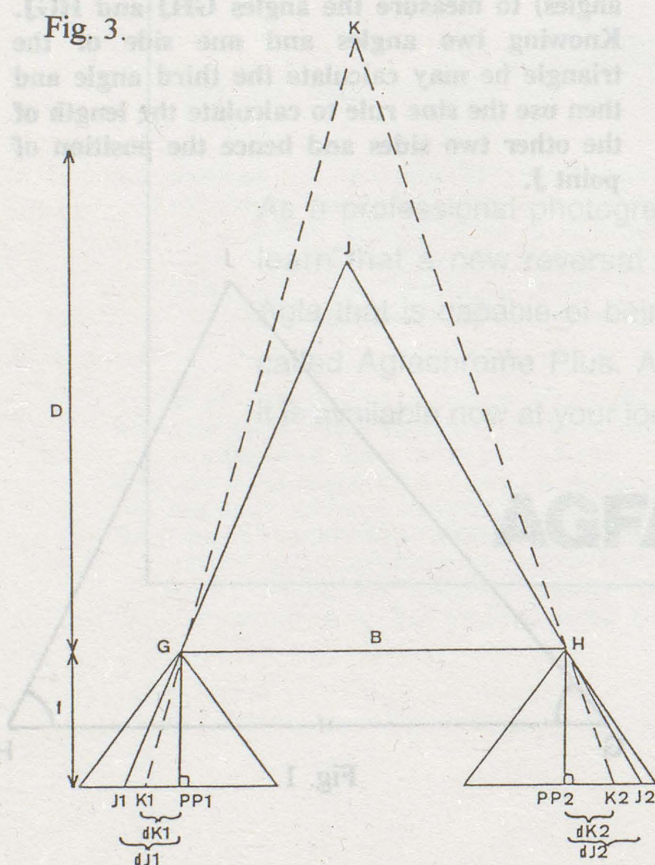
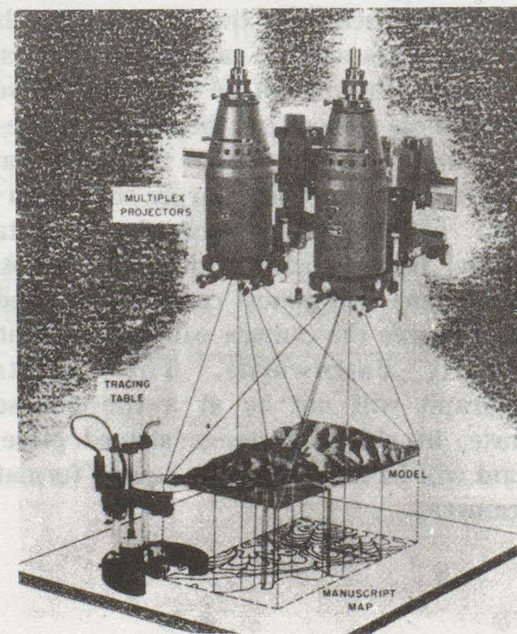
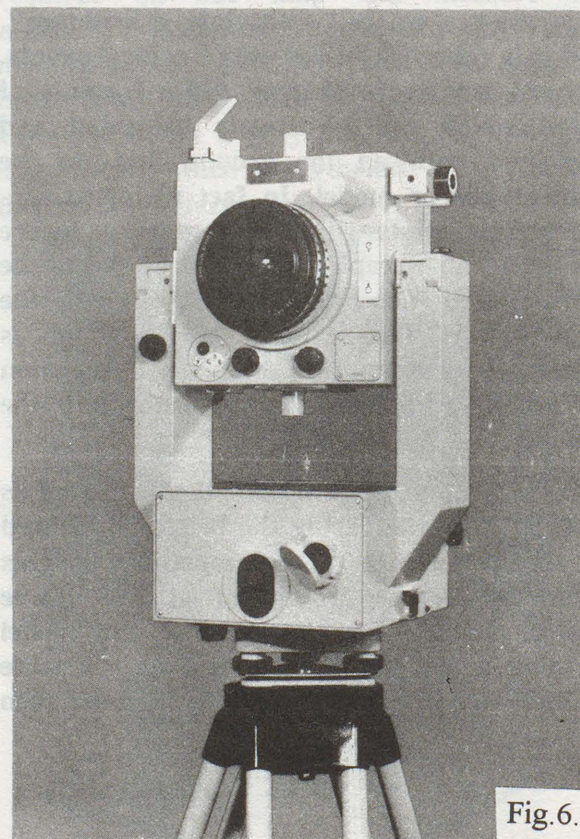

Fig. 3.
Fig.4.
Fig. 6.
In figure 3 we see that we can obtain the same information by replacing the two theodolites by two cameras. Clearly we can not measure angles with the cameras but we can obtain the direction of the rays GJ, HJ, GK and HK in the following way.
In a photogrammetric camera we know the Principal Distance (approximates to the focal length) f very accurately from a factory calibration. We also know from calibration the position of the principle point (PP) which is the point on the format at which the principal ray intersects the focal plane at right angles. Using a precise measuring instrument, which will be described later, we may measure (Fig 3) the distance on each of the two photographs between the PP and the image of the point in question. ie $dK1$, $dK2$, $dJ1$ and $dJ2$. If we look on the left camera at the right angle triangle G, PP1, J1, we know the distance PP1 to J1 ($dJ1$ measured). We may then calculate the angles of the triangle and hence the direction of the ray GJ. Using a similar calculation for K1 on the left camera and J2 and K2 on the right camera we may calculate the direction of the other rays and hence the position of points J and K. In order to obtain the difference of height of points J and K, similar measurements must be made to obtain the distance of the image points from PP1 and PP2 parallel to the other axis of the photograph.
Let us now return to our aerial photographs and the map making application. Clearly, it would be very tedious and cumbersome to identify on the photographs each of the points required on our map and measure the necessary distances individually by some manual means. We have therefore designed instruments with which to speed the process. Figure 4 shows a very old and long obsolete instrument, which nevertheless illustrates the method we use very clearly.
In order to carry out the absolute orientation it has been necessary to take measurements on the model. How do we actually achieve this? If we continue to refer to figure 4 you will see that there is a white disc or platen on the tracing table. In the centre of the platen is a small illuminated measuring mark which is sometimes referred to as a "floating mark". By moving the tracing table in plan, and also using a thumb screw to move the platen up and down, this measuring mark may be moved in three dimensions over the surface of the model. So if we wish to measure a particular point on the model, say a road junction, we view the three dimensional model through our coloured spectacles and position the measuring mark three dimensionally on the road junction. By doing this we have used stereoscopy to help us identify accurately the same point on each of the two photographs. For example, we might have identified accurately points J1 and J2 in Fig 3. Thereby measuring DJ1 and DJ2 in the same figure. A pencil vertically below the measuring mark identifies this same point on a map positioned below the model. The height of a point may be obtained by reading a vernier scale beside the white platen. It follows that we can draw roads and other features on our map by moving the measuring mark along these features in three dimensions.
Whether we are using old analogue instruments, analytical or digital systems, our fundamental geometry remains the same. The geometry of our camera is paramount. In order to obtain acceptable accuracies in our measurements we need to use a metric camera. What do we mean by a metric camera? If we look at Fig 3 we see that the direction of the rays to points K and J is critical if we are to maintain the position of our intersection accurately. There are several constants in the camera which affect the direction of these rays and their values must be accurately determined by calibration and utilised in the measuring instrument. Calibration is usually carried out by the camera manufacturer but may be satisfactorily achieved by other parties using a suitably constructed range of targets. The values to be determined are the principle distance (f), the position of the principle point (PP) and the lens distortion. The latter value is the amount by which the rays are bent as they pass through the lens. The PP is defined by the intersection of lines joining crosses (fiducial marks) positioned at the corners or centres of
the sides of the format. The fiducial marks are often illuminated by a light source independent of the shutter. The lack of flatness of the film is a variable and cannot be determined by calibration. A metric camera should be constructed with a proper film flattening device. To give an idea of the accuracy demanded of the calibration we would expect to know the value of f to the order of $\pm 0.01\text{mm}$. f is generally very small compared to D (fig 3) so a small error in f will make a significant difference to the position of our intersection at K or J. A Zeiss UMK metric camera is shown in figure 6.
So, apart from the camera, what other factors affect the accuracy of our final measurements? Firstly, we should consider the base to distance ratio. In Fig 3 this means the ratio between distances B (the separation of the cameras) and D (the average distance from the camera to the object). If this ratio is too small the cameras become too close together and our intersection becomes too acute to give us an accurate depth co-ordinate. If the cameras are too far apart a suitable overlap of the photographs may not be maintained or there may be difficulty in viewing the photographs stereoscopically. In general we should aim for a base to distance ratio between 1:1 and 1:12.
Secondly, accuracy is affected by the scale of the photographs which is governed by relationship of f to D (Fig 3). $\text{Scale} = f/D$.
.dp is the estimated measuring accuracy on the photograph which we may assume is about 0.01mm. The other letters refer to Fig 3. As a rule of thumb we might expect the depth measurements to be good to approximately one